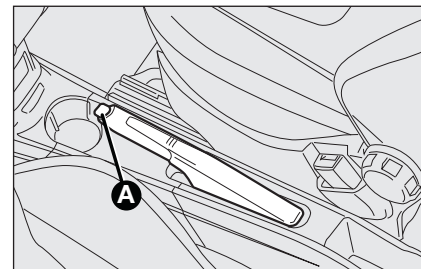

fig. 1
- ☐ slightly lift the handbrake and press release button A - fig. 1;
- ☐ keep button **A** pressed and lower the lever. The warning light ① on the instrument panel will turn off.